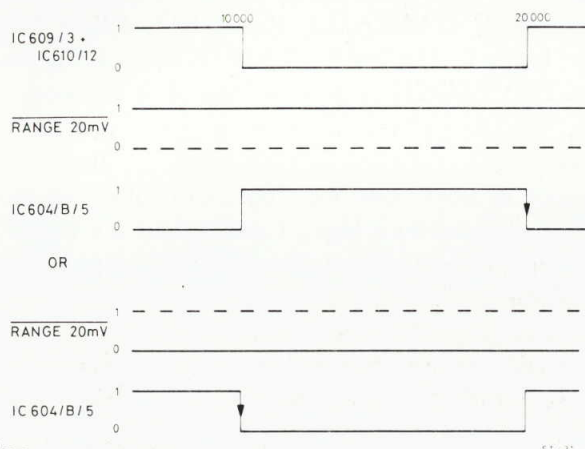

Fig. 22 Signaling overload condition
- at position 10,000 for range 1000 V, IC604/B triggered at negative edge of signal 10,000/20,000 (Fig. 22).
This means that the indication would be higher than 20,000. However, IC604/B is triggered by the positive edge at 20,000, thus IC604/B/9 becomes logic 1 ("up" pulse) and IC604/B/8 becomes logic 0 (Fig. 22).